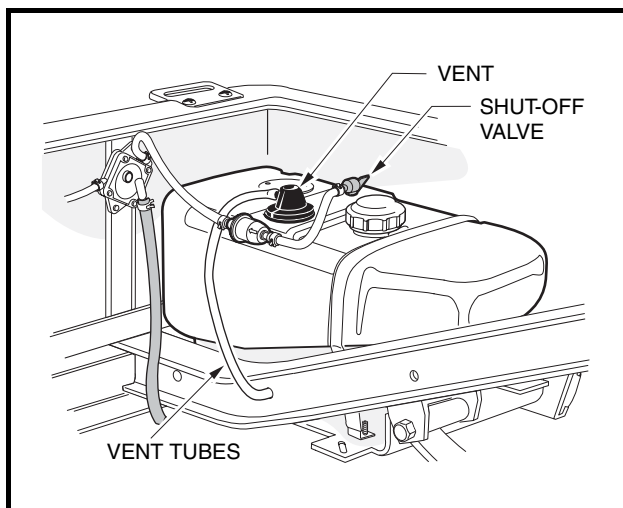

Figure 29 Fuel Tank
- If the vehicle has an all-weather enclosure installed, be sure the fuel tank is properly vented as shown (Figure 29).